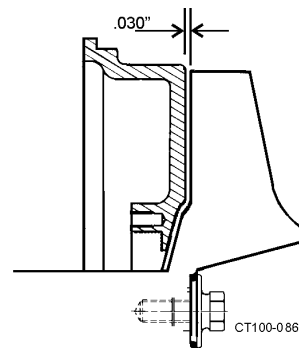
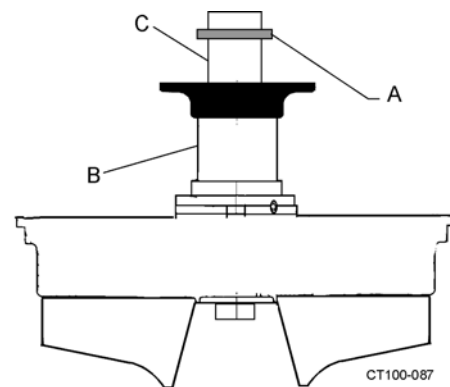

Figure 44 - Clearance Between Impeller and Backplate
Figure 45 - Locations of Shims
22. Check impeller/backplate clearance with the backplate held firmly in position against motor adaptor. Check the space between the back of the impeller and the backplate with a feeler gauge (.030 nominal) while holding the backplate tight against the bearing housing flange. (Any axial movement of the shaft should not be added to the .030 nominal clearance). (Figure 44). If needed, change this clearance by adding or removing shims. Shims (Figure 45, item A) are added on the drive shaft (Figure 45, item C) behind the impeller shaft (Figure 45, item B).